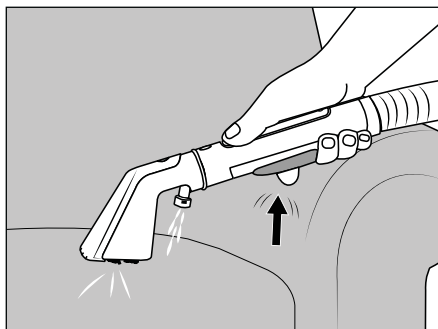

Fig. 6
(2) Before cleaning, check the upholstery / carpet manufacturer's label for special care instructions. The appliance is not suitable for sensitive textile fabrics (e.g. silk, leather, flokati).
(3) When using cleaning agents (vinegar-based cleaners and upholstery cleaning agents), always test how the appliance performs on an unobtrusive spot to ensure that no discolouration occurs.
(4) The appliance must be properly assembled before operation, and the fresh water tank ②  must be filled.
(5) Switch off the appliance before swapping the upholstery nozzle ㉒ and crevice nozzle ㉓.
(6) If the dirty water tank ⑦  is full, the float ⑥ closes the suction opening and the appliance runs at increased speed. Switch off the appliance immediately (see section 7.1. **Cleaning the dirty water tank**).
- ◆ Fold the carrying handles ⑮ upwards and carry the appliance to the place where you need it.
- ◆ Remove the spray/suction hose ⑰ from the hose holders ⑮/⑯.
- ◆ Slide the hose holder ⑮ into the appliance.
- ◆ Hold the spray/suction hose ⑰ by the handle.
- ◆ Press the On/Off button  ⑨ to switch on the appliance.
- ◆ Hold the upholstery nozzle ㉒ 2–3 cm above the area to be cleaned and press the spray button ㉔ to apply water / cleaning solution from the spray nozzle ㉕ (see Fig. 6).